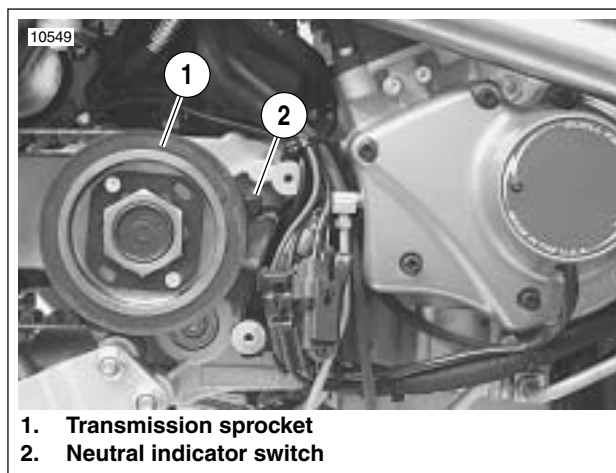

Figure 7-75. Neutral Indicator Switch Location
See Figure 7-75. The neutral indicator switch (2) is threaded into the transmission portion of the right crankcase half. It is immediately forward of the transmission sprocket (1). The sprocket cover must be removed to test the switch.
2. See Figure 7-75. Disconnect wire lead from neutral indicator switch (2).